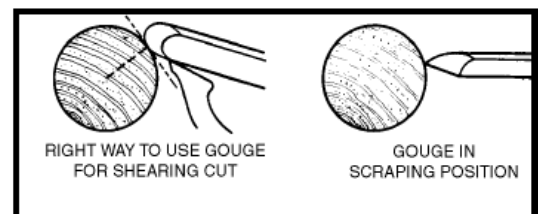

Fig 19.
3. The tool is held well up on the work, with the bevel or grind tangent to the revolving surface (Fig. 19). This position will give a clean shearing cut. When pushed straight into the work (Fig. 19), the gouge has a scraping action, (normally a poor practice in spindle turning). The roughing cut is continued until the work approaches 1/8" of the required diameter. Once a cylindrical form has been obtained, the turning speed can be moved to the second or third speed setting.